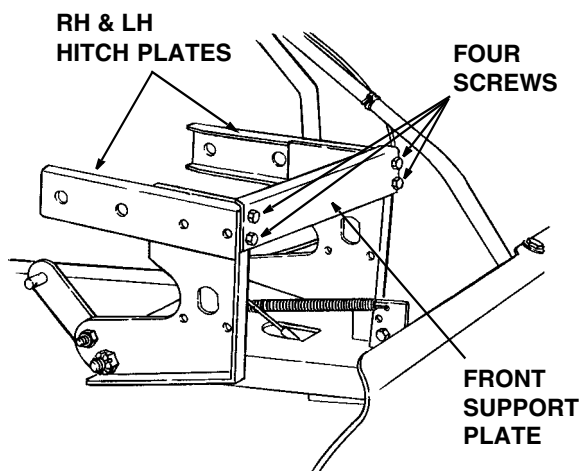

Figure 11
9. Loosen, BUT DO NOT REMOVE, the four screws that fasten the front support plate to the LH and RH hitch plates. See Figure 11.